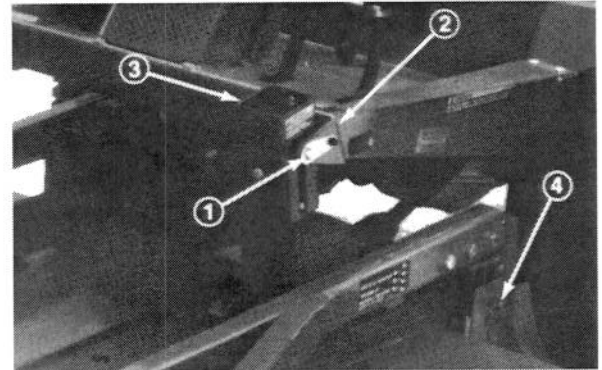

Figure 9
2. Disconnect the counterbalance from the traction unit, remove the lockpins from the brackets, separate the spring tension assemblies from the brackets and lay them down on the deck. Loosely secure the lockpins to the brackets to prevent losing them (Fig. 9).
3. Lower the cutting unit, remove (4) pins from the height-of-cut brackets (Fig. 9).